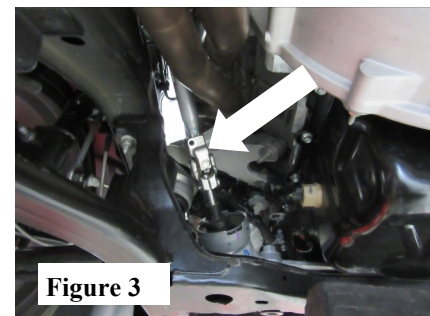

Figure 3
3. Unbolt the fastener (13mm head) retaining the steering shaft to the universal joint and separate the joint. (See Fig. 3)